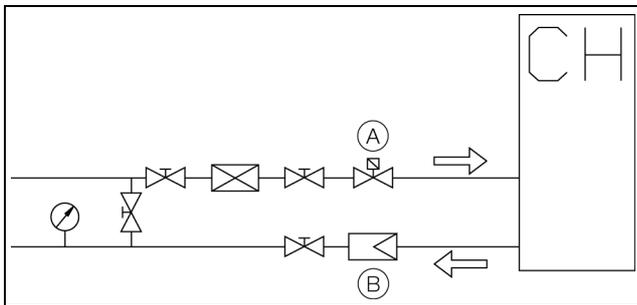

Fig. 26: Installation example with non-return and magnetic valve
- A pressureless water tank is installed in the chiller. It must therefore be installed higher than the equipment. For installation at a lower height we recommend installing a non-return valve in the inlet and a magnetic valve in the return of the cooling medium circuit (option) so as to avoid a potential tank overflow (fig. 26).